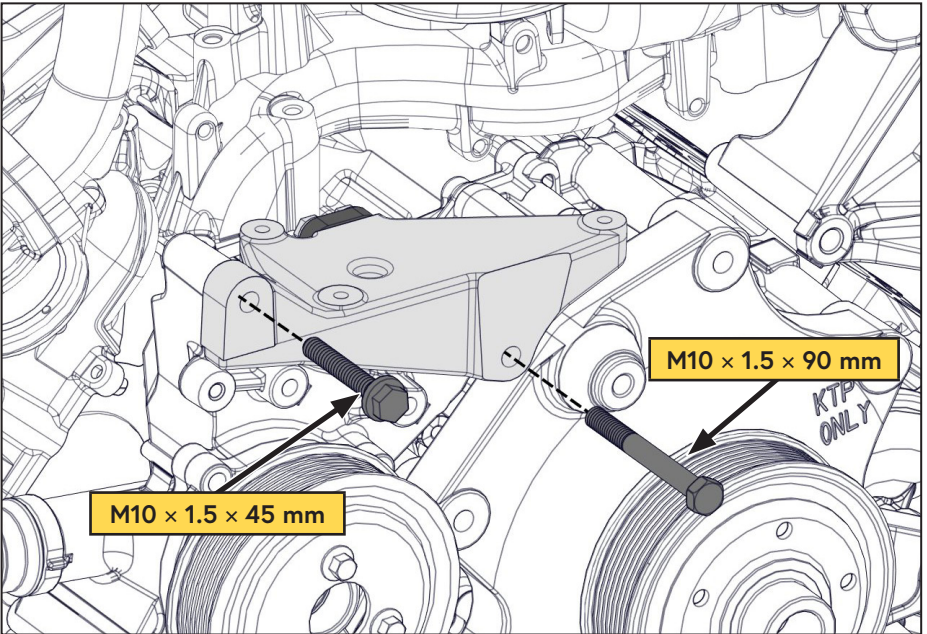

Figure 10 — Mounting the compressor onto the engine
- Install the compressor and main bracket assembly onto the engine (Figure 10).